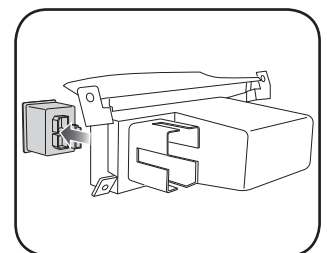

Fig. 2.8
8. Remove the factory USB housing from the pocket. Depress the four tabs using a small pick tool. (Fig. 2.8)